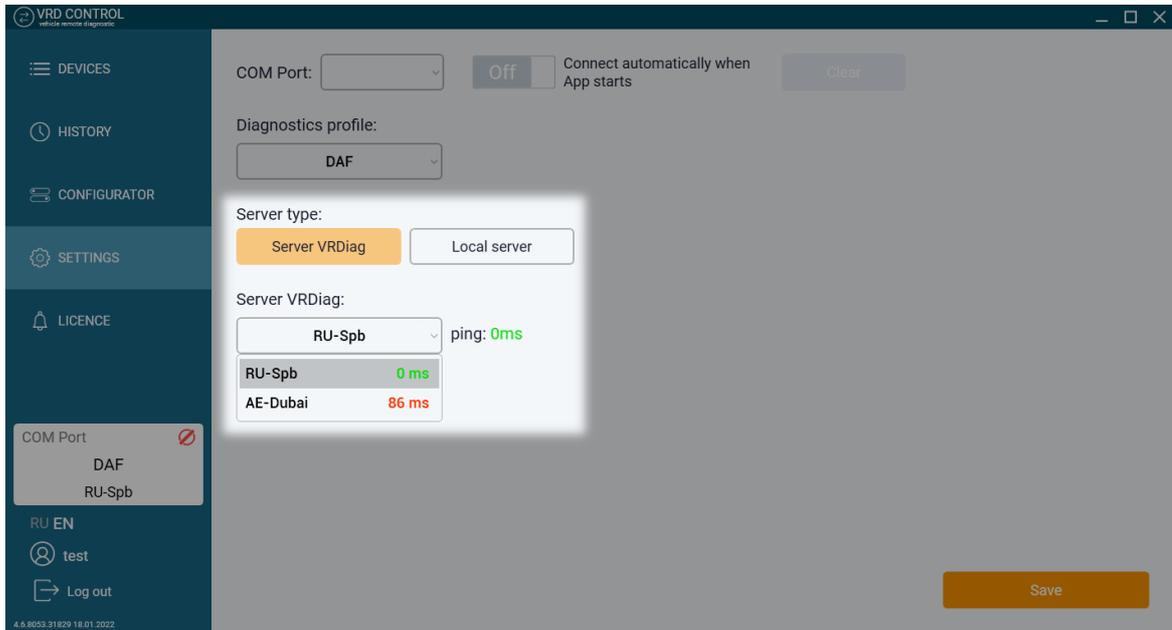

Figure 28 Selecting Remote Diag server
6. Select a server with minimum delays from the drop-down list, the delay (ping) is shown to the right of the server name (see Figure 28)
The information bar will show the COM port to which the VRD-Server is connected, its individual number, connection status, diagnostic profile, and data transfer server settings (see Figure 28).